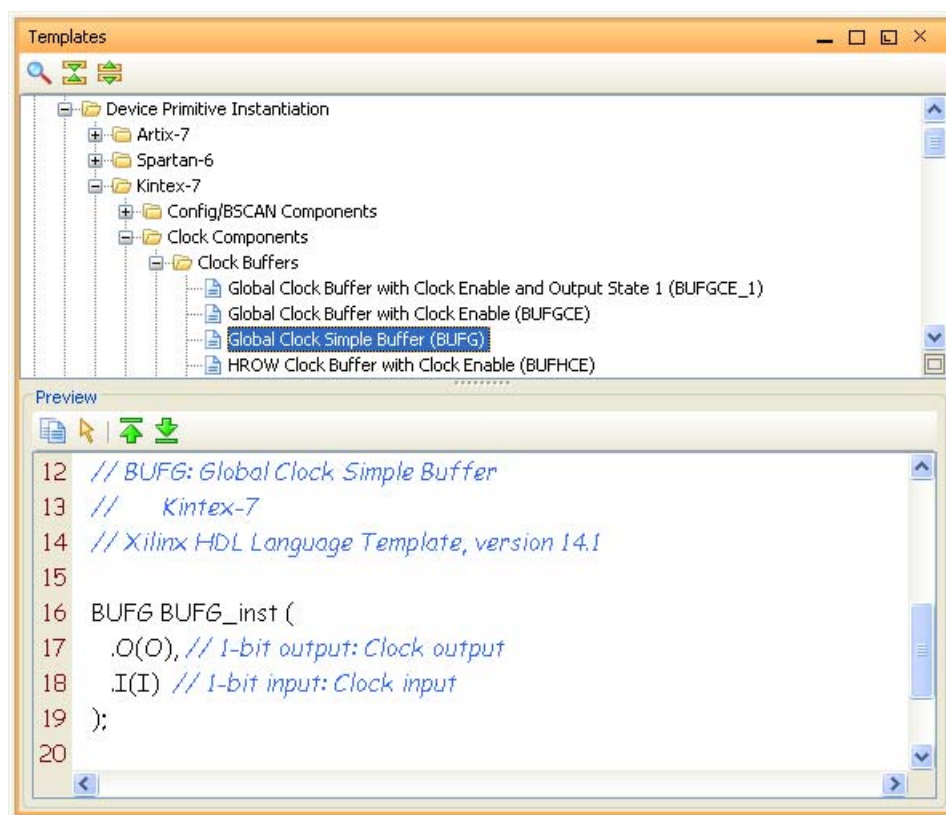

Figure 4-64: Xilinx Language Templates
Figure 4-64 shows the Template view with a selected language template.
2. Browse and select a template from the VHDL, Verilog, or UCF hierarchy in the Template view. Figure 4-64 shows an example of a Xilinx-supplied templates.